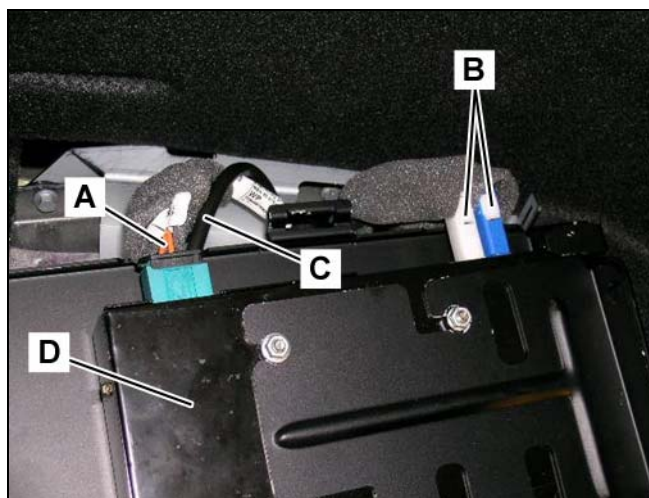

Figure 21
1. Connect the blue and white preinstalled antenna connectors (B, Figure 21) to the like-color jacks on the SDARS control module (D, Figure 21).
2. Insert the MOST connector (A, Figure 21) and SDARS power supply connector (C, Figure 21) into the kit-included, female MOST adapter.
3. Connect the preinstalled female MOST adapter to the SDARS control module (D, Figure 21).